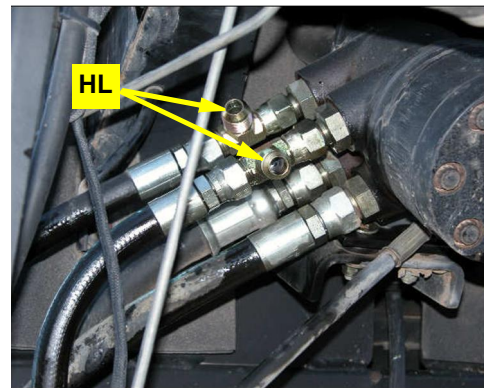

Figure 8b: Run tees installed, left and right steering hoses reconnected
- b. Remove the right and left steering hoses and install the run tee fittings **HL**. Reconnect the left and right steering hoses (Figure 8b).